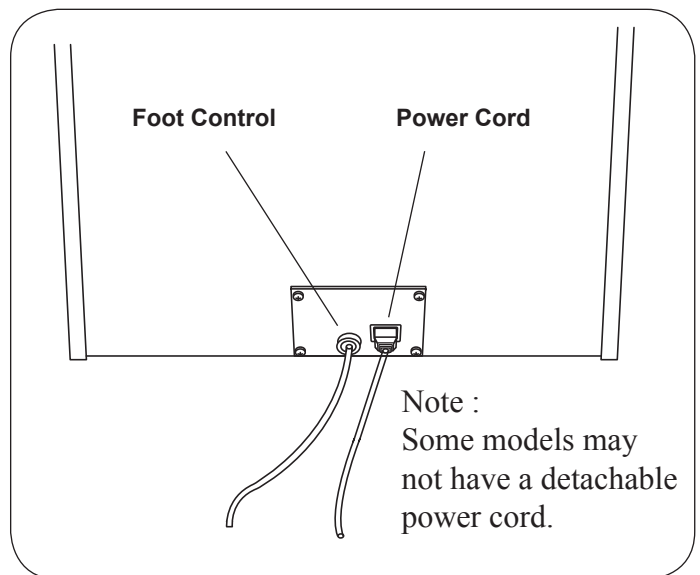

Figure 7. Power Cord and Foot Control
2. Insert the female plug end of the power cord into the receptacle on the table (Figure 7). Make sure the tabs are aligned and the plug is fully seated.
1. Insert the male plug of the foot control cord into the receptacle on the table (Figure 7). Make sure the pins are properly orientated and the plug is fully seated.